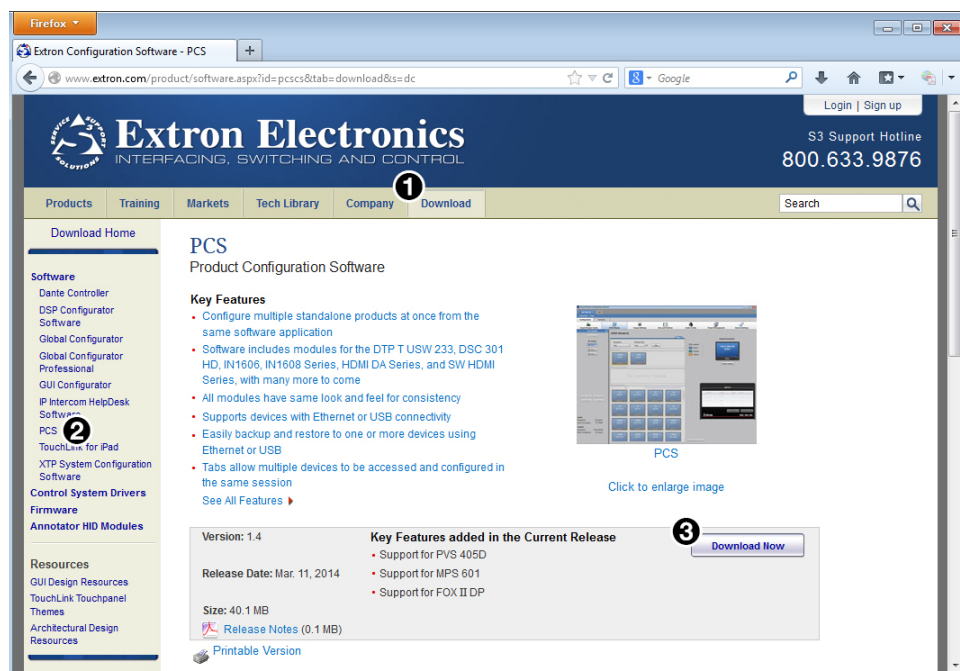

Figure 21. PCS Download from the Extron Website
1. On the Extron Website, select the **Download** tab (see figure 21, ① on the previous page).
2. From the left sidebar, click the **PCS** link (see figure 21, ②).
3. Click the **Download Now** button (see figure 21, ③).